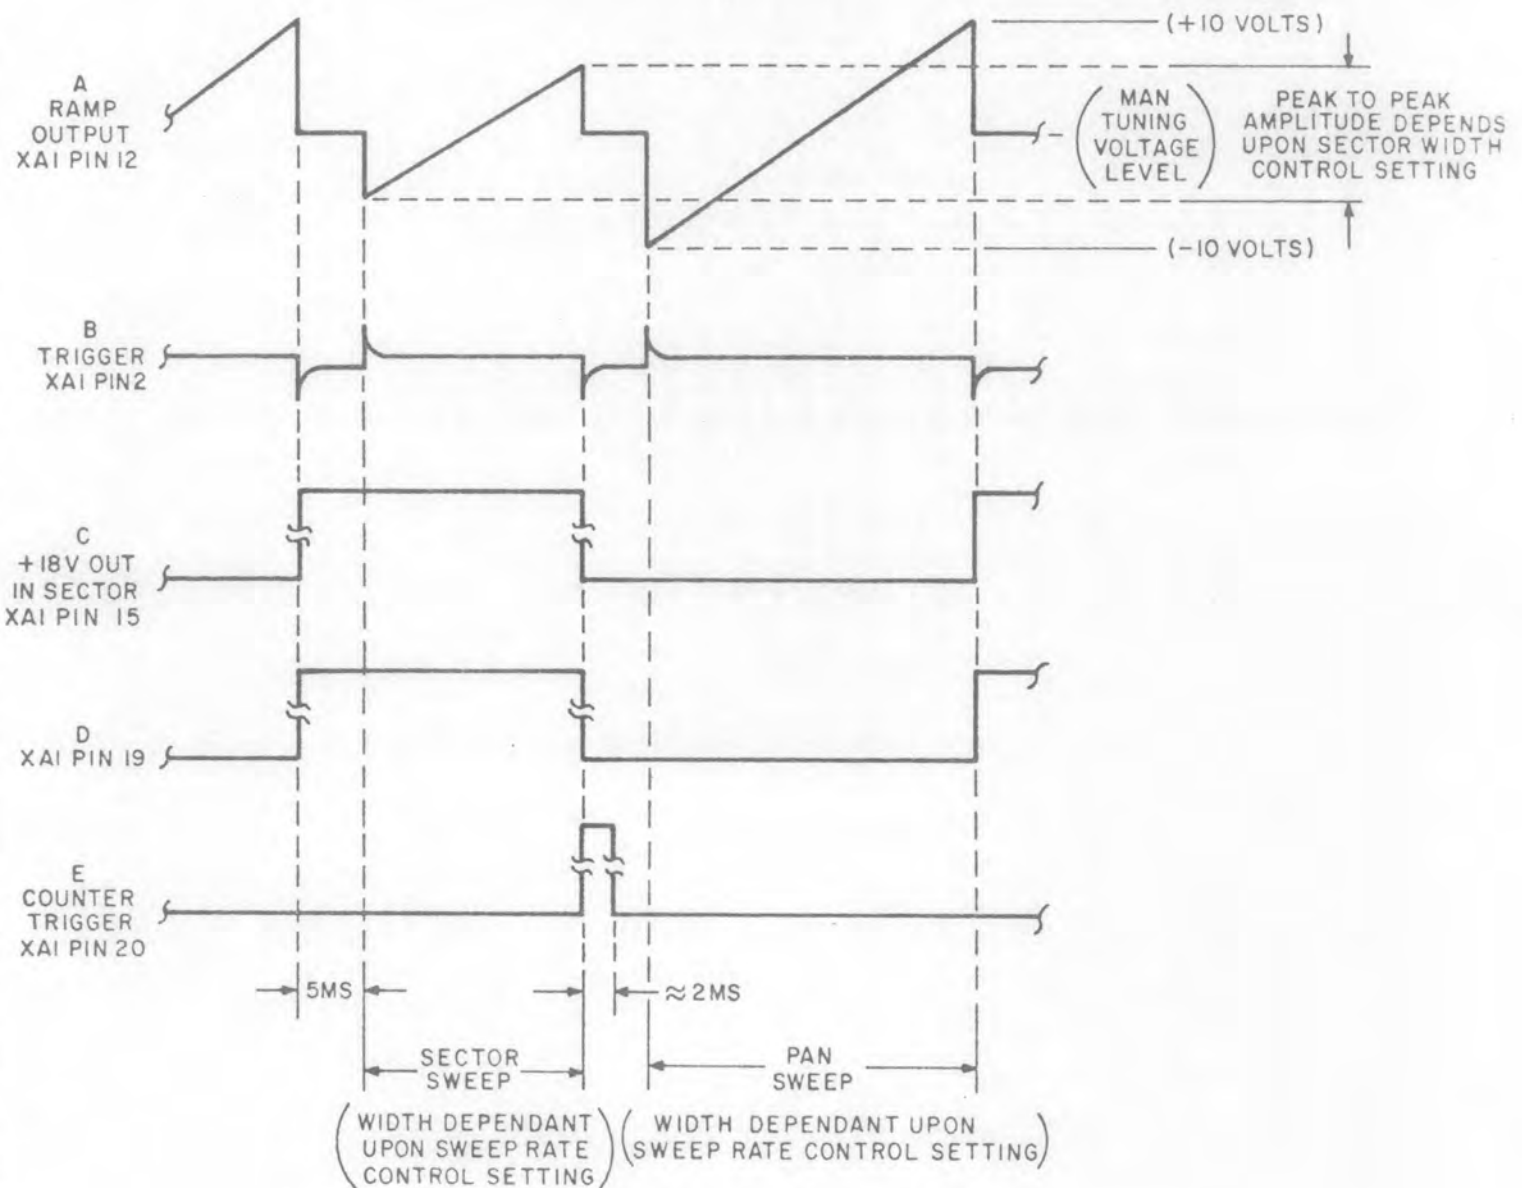

Figure 2-4. PAN/SEC Mode Tuning Diagram
2.3.2 PAN/SEC Timing. - A bi-stable flip-flop controls the PAN, SECTOR and PAN/SEC tuning mode switching for the Receiver. The flip-flop is triggered by negative-going pulses from the ramp generator board (A2). The trigger pulses occur at the end of each ramp waveform. In addition, the flip-flop is also controlled by the +18 V PAN, SECTOR, and PAN/SEC voltage inputs. Figure 2-4 illustrates the timing of the split display switch board for a complete PAN/SEC operating cycle. Waveform A is the switched ramp output from A1, pin 12. Waveform B is the trigger input applied to A1, pins 2 and 16. Waveform C is the +18 V output in SECTOR from A1, pin 15. Waveform D is the dc shift voltage for the SM-7301(A) vertical voltage during the SECTOR portion of the PAN/SEC mode. Waveform E is the delayed counter trigger pulse output from A1 pin 20. As shown in the diagram, the ramp output is alternated between the PAN and SECTOR sweeps in the PAN/SEC mode. When the 215 is operated in the PAN or SECTOR modes, the proper ramp is selected and counter triggering occurs every sweep, but the dc shifting of the SM-7301(A) vertical trace does not occur.